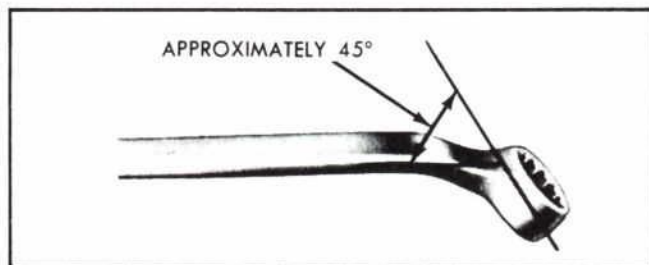

Figure 6—Wrench for Bleeding Brake Hydraulic System
2. To bleed the secondary (rear) brake system, position a suitable $\frac{3}{8}$ -inch box wrench (Fig. 6) on the bleeder fitting on the brake wheel cylinder. Attach a rubber drain tube to the bleeder fitting. The end of the tube should fit snugly around the bleeder fitting.
4. If the rear wheel cylinders (the secondary brake system) are to be bled, position a $\frac{3}{8}$ -inch box wrench (Fig. 6) on the bleeder fitting on the right rear brake wheel cylinder. Attach a bleeder tube to the bleeder fitting. The end of the tube should fit snugly around the bleeder fitting.